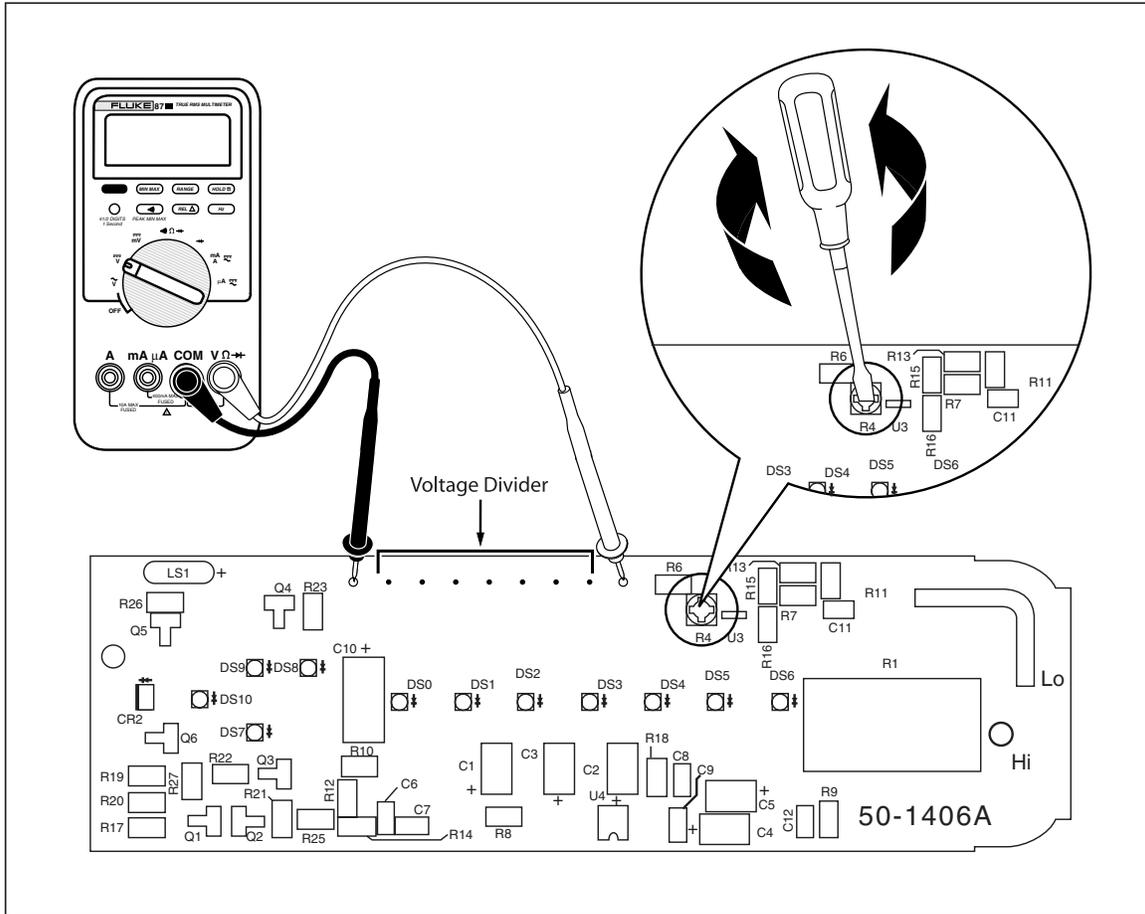

Figure 1. Calibration Adjustment Point
7. Using a calibrated meter, measure the voltage across the voltage divider with the positive lead near R4 and the negative lead at the other end of the divider. Refer to Figure 1.